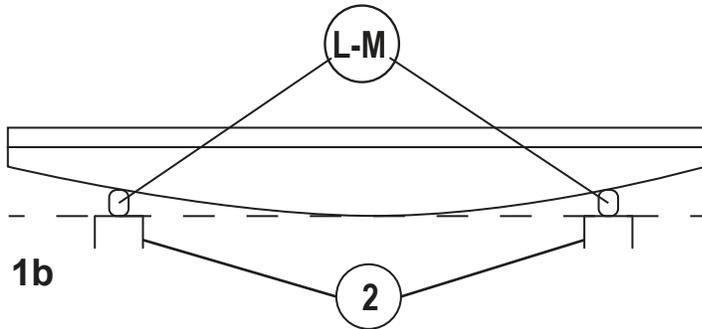
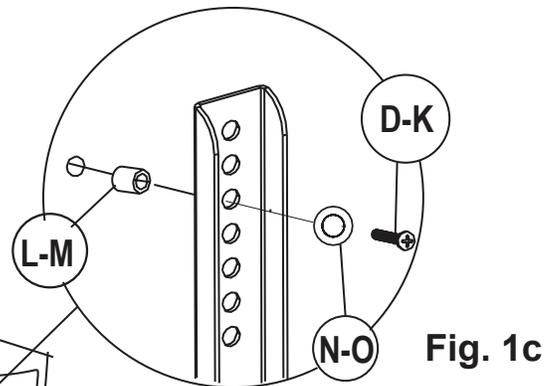

Fig. 1b
Fig. 1c
If your television has a curved back, and the mounting holes are recessed (Fig 1b) spacers are required. Install the proper size **Spacers (L-M)** between the TV rear and the bracket structure as shown in Fig 1b. to make sure the **Brackets (2)** extend past the rounded portion of the TV. Then use the selected **Bolts (D-K)**, **Washers (N-O)**, and the **Allen Wrench (4)** to attach the bracket structure (with the spacers between the bracket and the TV) to the TV as shown in Fig 1c. Make sure the bracket structure is properly aligned on the rear of the TV and securely tighten the bolts. Do not over tighten.